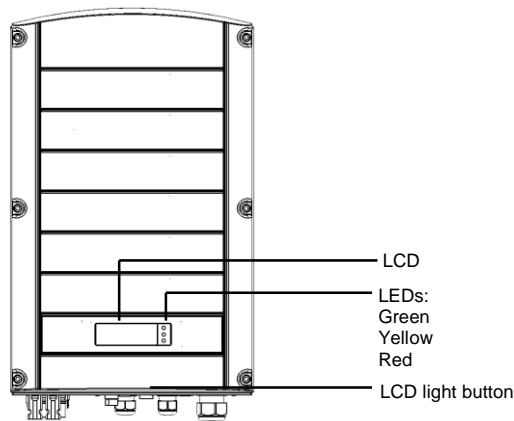

Figure 4: Inverter front view
- **LCD LEDs:** Three LEDs indicate the following inverter statuses (see Figure 4):